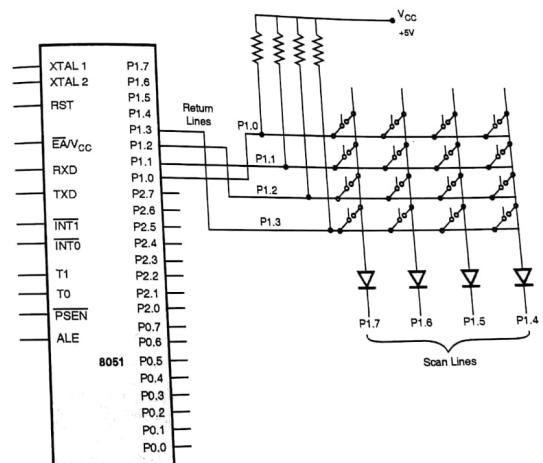

Fig. P. 9.2.2 :  $4 \times 4$  matrix keyboard connected to port 1 of 8051
**Solution :** Fig. P. 9.2.2 shows how a matrix keyboard is connected to the Port 1 of microcontroller 8051. The  $4 \times 4$  matrix keyboard is connected to the Port 1 of microcontroller. The P1.4 - P1.7 lines of Port 1 are used as scan lines while the P1.0 to P1.3 lines of Port 1 are used as return lines.